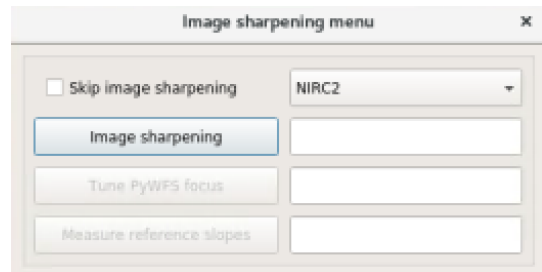

Figure 13: Image sharpening menu
- The `Image sharpening` menu is opened (FIGURE 13).